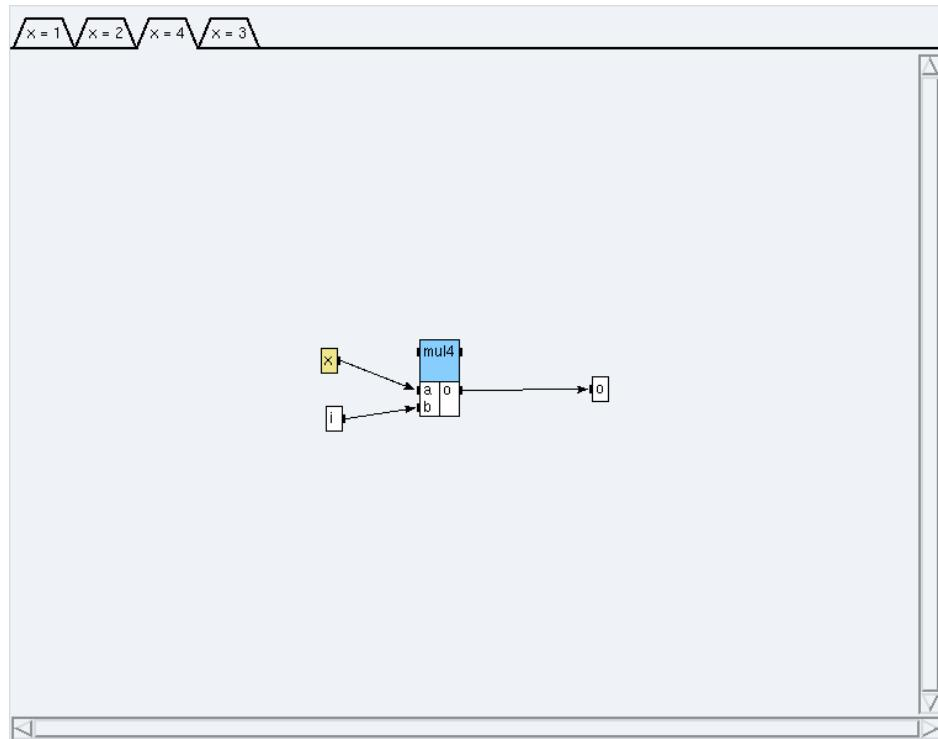

Figure 5.5: Condition $x=4$
- * click on the condition **x=4** (*cf. figure 5.5*) and create a reference `mul4<1>` to the definition `int/Arit_mul`;